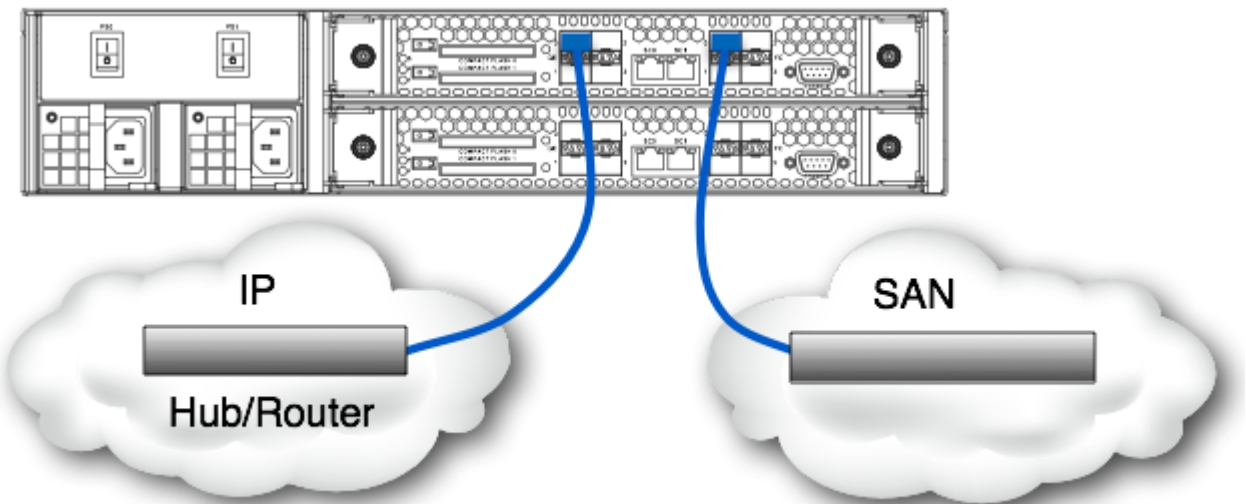

Figure 6-2 Connecting the ONStor Cougar 6000 Series NAS Gateway to the SAN
Step 2: With a multimode fiber optic cable (not provided), connect the Storage Processing (FP) module to a Fibre Channel device in the SAN or directly to Fibre channel storage devices, as shown in Figure 6-2.